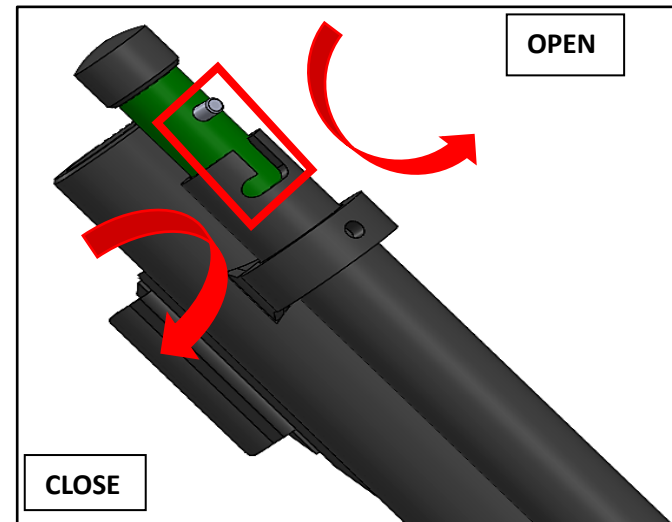

FIGURE 8
6. With the lever still open and your fingers away from the trigger, unlock the magazine tube, by twisting the end cap counterclockwise, and fully remove the magazine inner tube - FIGURE 8.
12. Once loaded, slide the inner tubular magazine back into the outer magazine tube. Some resistance is normal, this is from the follower spring. Press the inner magazine tube down until it is fully seated. Once the inner magazine tube is fully seated, twist the end cap clockwise to lock it back into place - FIGURE 8.